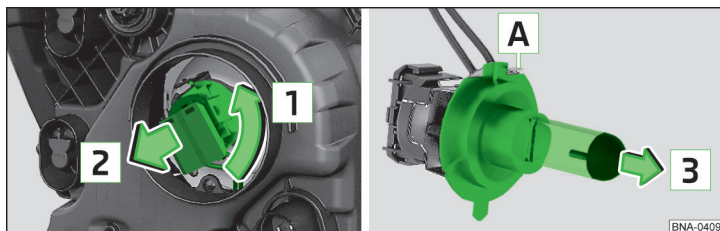

Fig. 112 Changing the bulb for the main beam
- › Turn the plug with the light bulb in the direction of arrow **1** and pull out in the direction of arrow **2** » fig. 112.